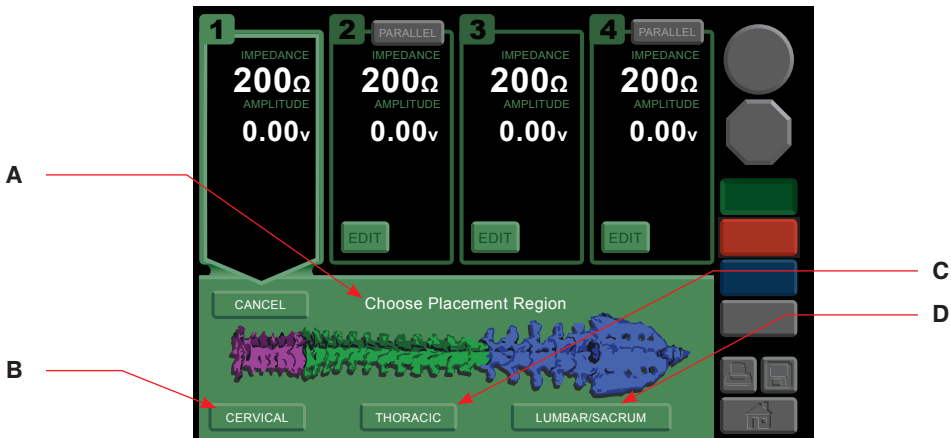

Figure 28 Choose Placement Region Dashboard
- 2. Touch the CERVICAL, THORACIC, or LUMBAR/SACRUM buttons to access a specific anatomical region dashboard (see figure 28).